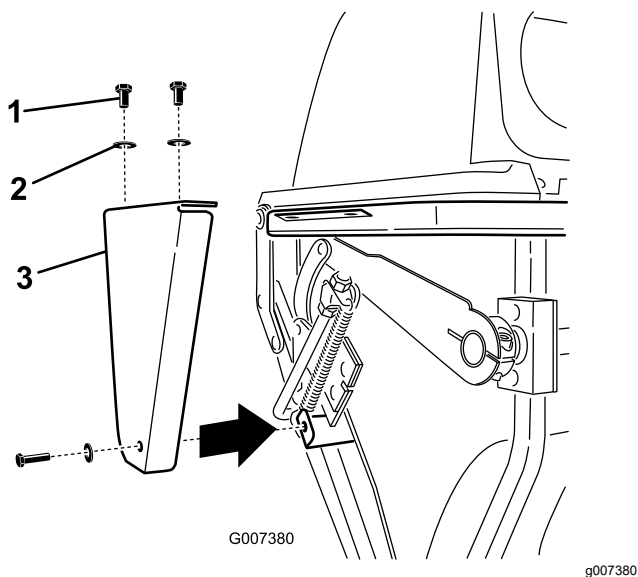

Figure 50
3. Remove the side plate from both sides of the bagger (Figure 50).